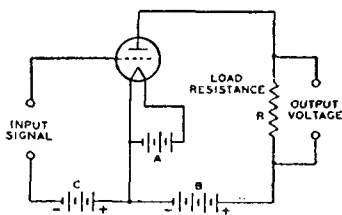

Fig. 14
The plate current flowing through the load resistance (R) of Fig. 14 causes a voltage drop which varies directly with the plate current. The ratio of this voltage variation produced in the load